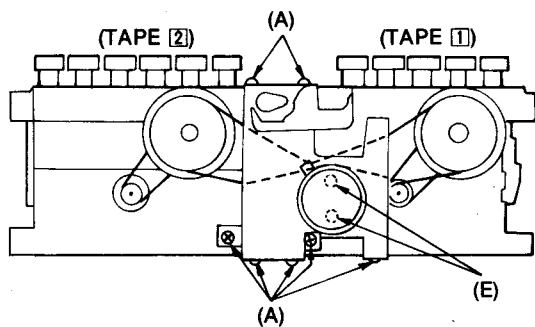

Fig. 1
Remove the motor attachment bracket, which will separate the Tape 1 and Tape 2 unit. (See Fig. 1.) Remove the two colored screws (E). (See Fig. 1.)